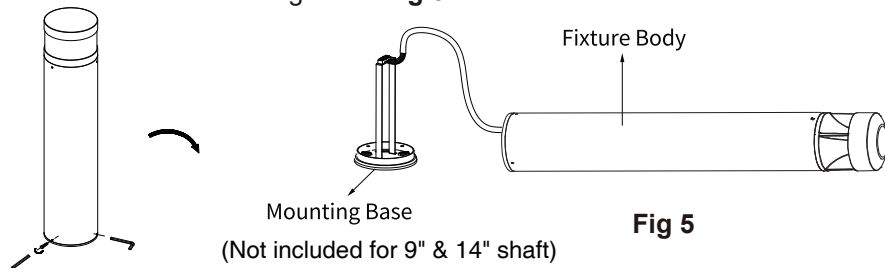

Fig 5
6. Loosen the 3 screws on the side of shaft bottom with the hex wrench and separate the fixture body from the mounting base. **Fig.5**